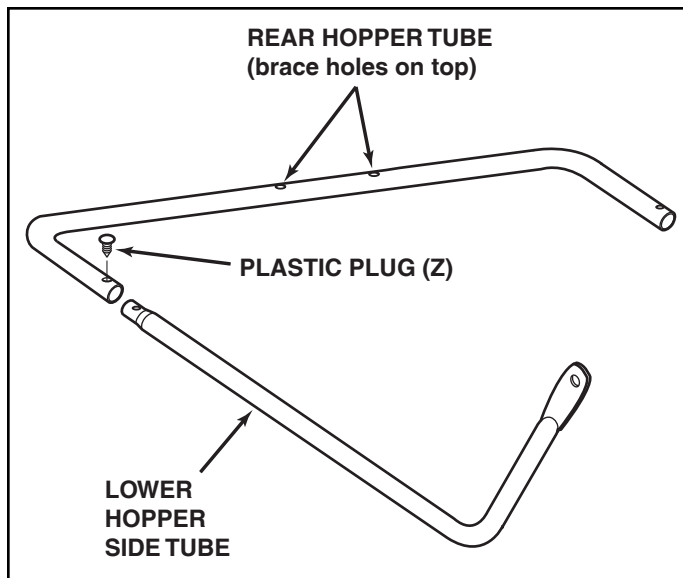

FIGURE 13
STEP 11: (SEE FIGURE 13 AND 14)
- Turn the second rear hopper tube so that the brace holes in the middle of the tube **face up**. Assemble the ends of the rear hopper tube onto the ends of the lower hopper side tubes. Fasten together using plastic plugs (Z).